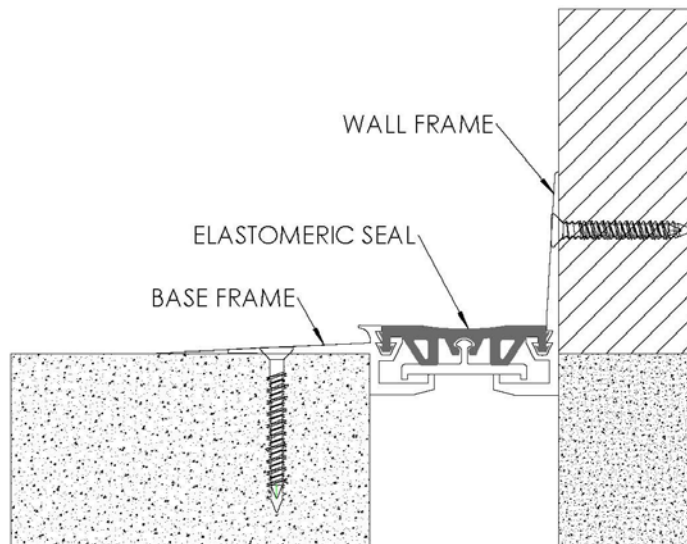

FIGURE 4
4. Position the elastomeric seal into position and push the seal bulbs into the base frame and wall frame top channels as shown. Make sure the bulbs are seated all the way into the channel. Also, make sure the bottom center channel in the seal is pushed over the protrusion on the slide plate (not required on 1" joint sizes). **See Figure 4**